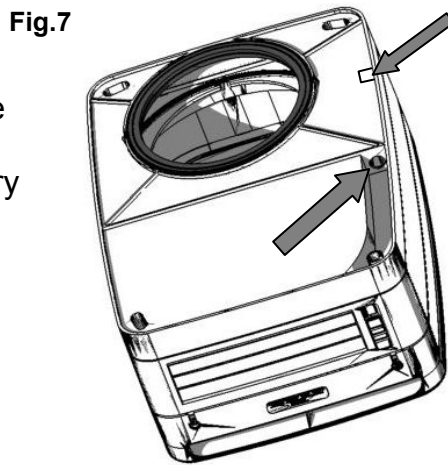
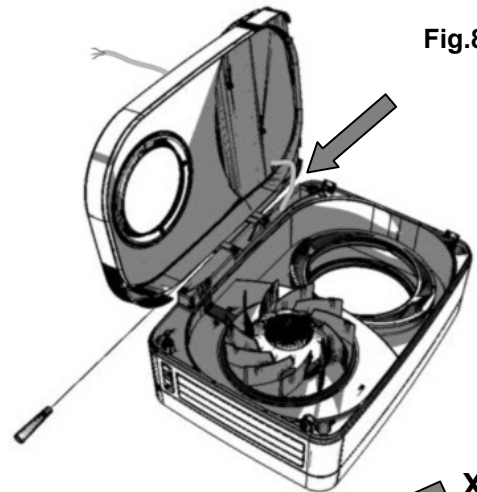

Fig.7
Fig.8
6) Feed flexible Mains cable through one of the rear entry points or the side entry point as required. And then the door Fig 7 & Fig 8